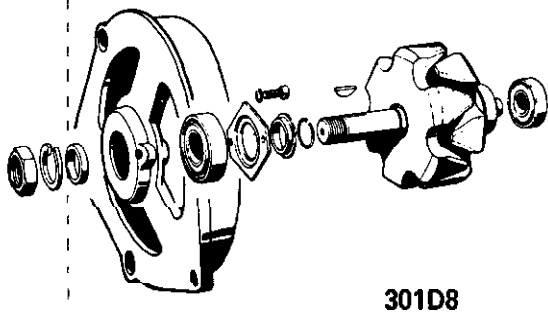

Figure 1D-8 Drive End Frame and Rotor Assembly
4. Pull drive end frame off rotor shaft. See Figure 1D-9.